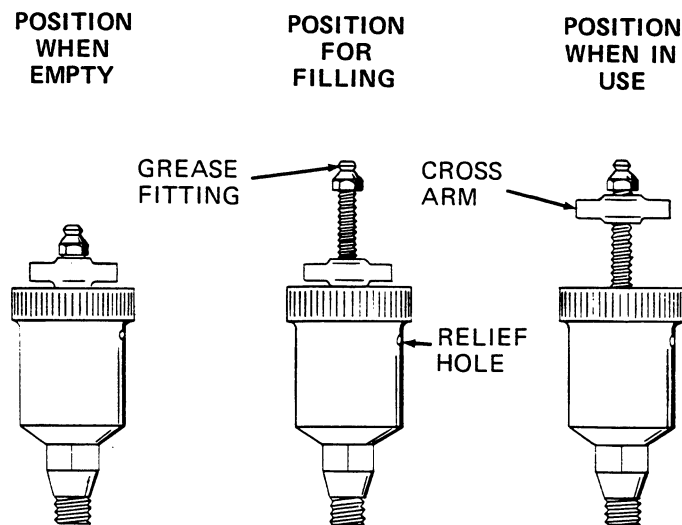

Figure 3. Automatic Lubricating Grease Cup
Before removing the seal assembly, turn the cross arm on the seal grease cup (13) clockwise until it rests against the cover (see figure 3). This will prevent the grease in the cup from escaping after the seal is removed.
Before starting the pump, fill the grease cup through the grease fitting with a good grade of No. 2 pressure gun grease until grease escapes from the relief hole. Turn the grease cup arm counterclockwise until it is at the top of the stem; this will release the spring to apply the grease to the seal (see figure 3).